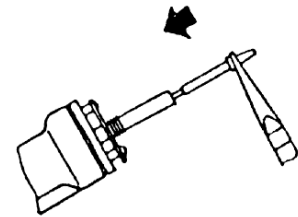

FIG. 6
5. Reinsert the stainless tube in the heating element to melt the solder, as shown in fig. 6. This will take approximately 5 seconds.